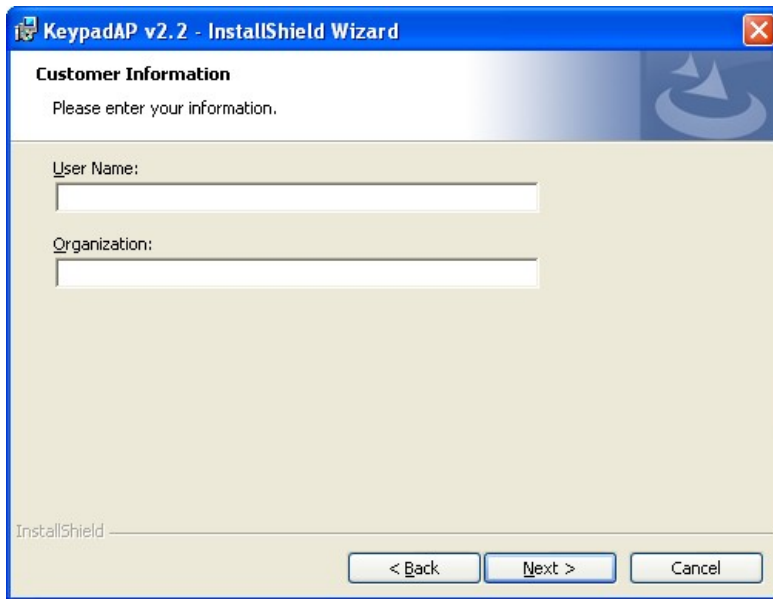

Figure 6-35: Customer Information Screen
Step 5: The **Customer Information** appears as shown in **Figure 6-35**.